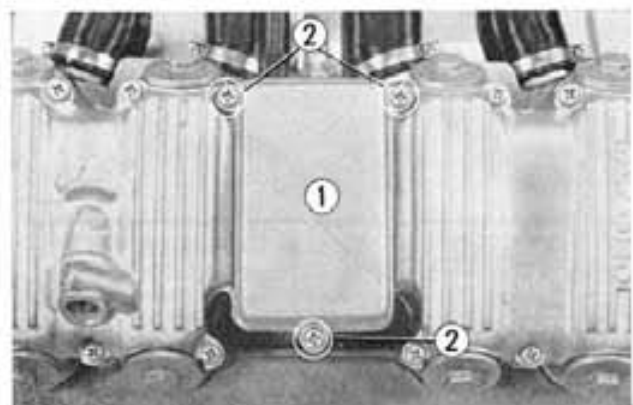

Fig. 3-21 ① Breather cover
1. Unscrew the three 6 mm cross screws and remove the breather cover. (Fig. 3-21)